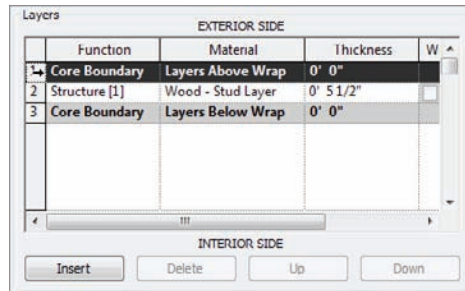

FIGURE 16.3 Clicking row 1 to highlight the entire row
As you can see in Figure 16.3, Revit understands the difference between interior and exterior. For the following procedure, you'll add materials to both the exterior and interior portion of the wall. Follow these steps:
1. In the Layers area, click the number 1, as shown in Figure 16.3 (it's the row that holds the Layers Above Wrap field).